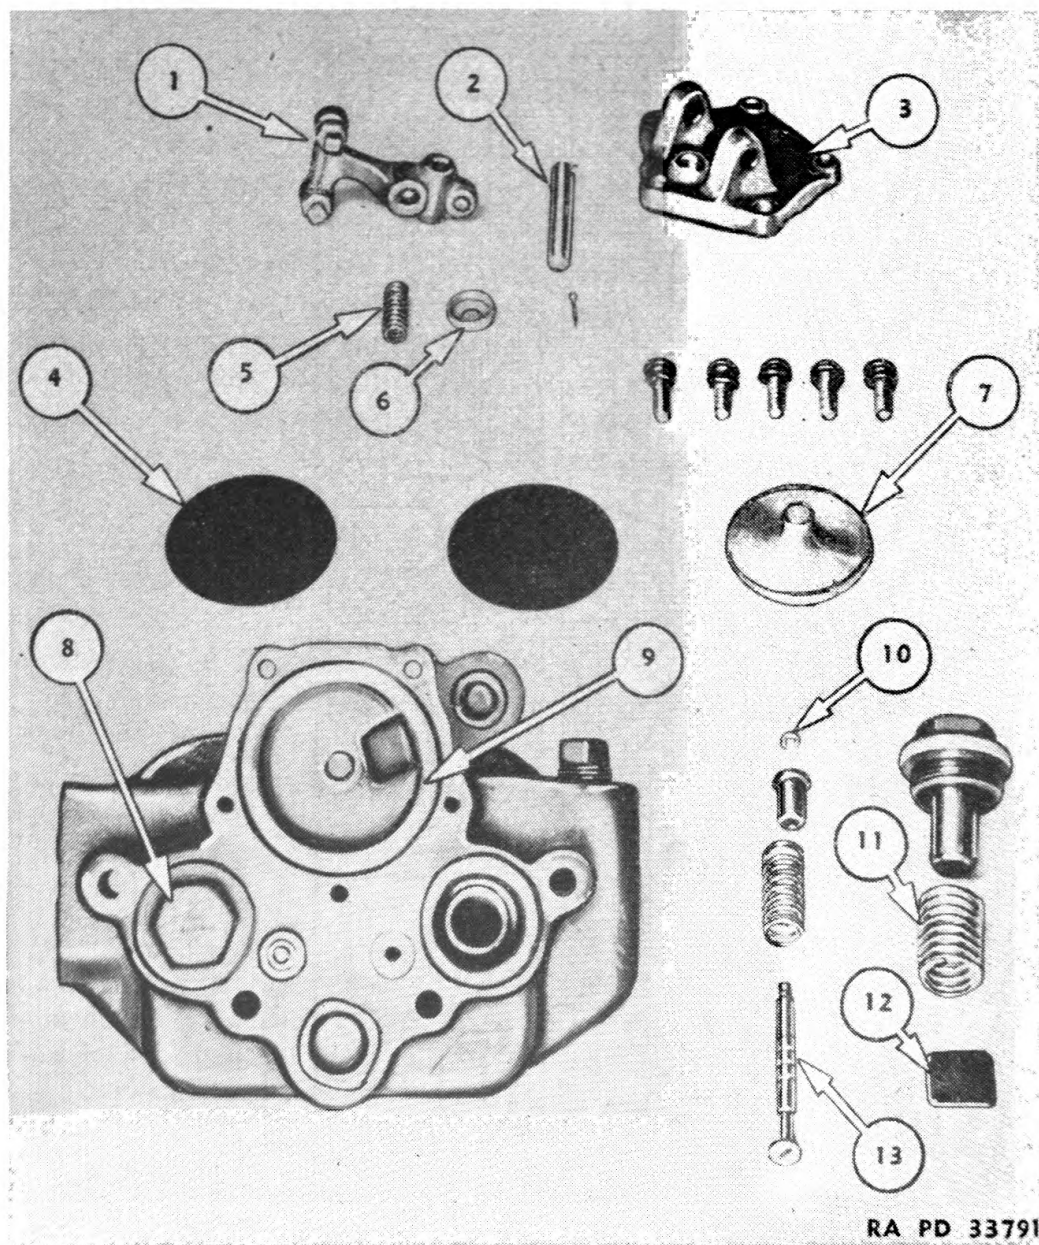

FIGURE 74.—Disassembly of head and valves.
67. Head and valve assembly.—Unscrew cap nut (8) (fig. 74) to remove discharge valve (12) and spring (11). Remove fulcrum pin (2) from rocker arm bracket (3) and remove rocker arm (1), spring (5), and dust guard (6). Lift out the two diaphragms (4) and diaphragm follower (7) from unloader valve recess (9). The grain of these two diaphragms should be perpendicular to each other